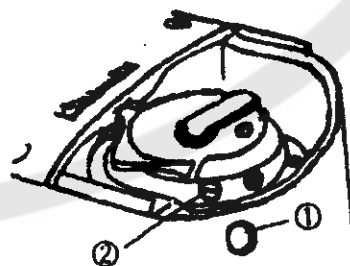

Fig.9
13、 How to adjust the lower thread (Fig.9):